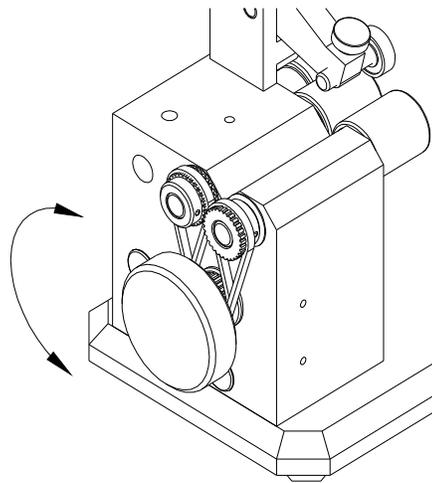

Figure 4. Manual Drive System
4.0 Gage Drive System – (See Figures 4)